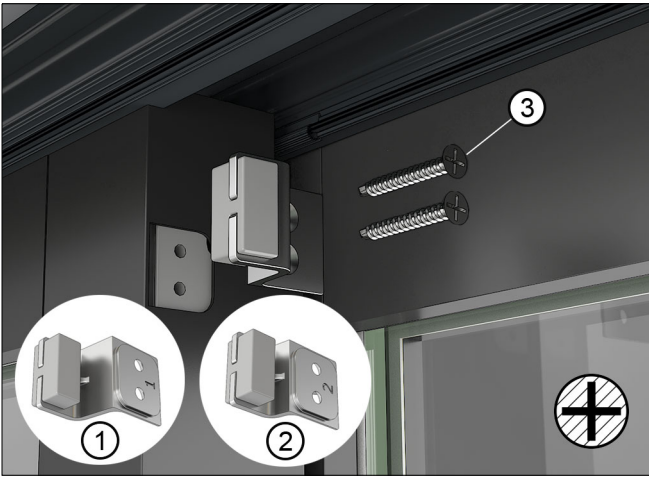

Figure 115 Top secondary panel bumper
1. On secondary panels, fasten panel bumpers to the interior meeting stile at the top and bottom with #10 x 1 1/2" Phillips head screws. See Figure 115.